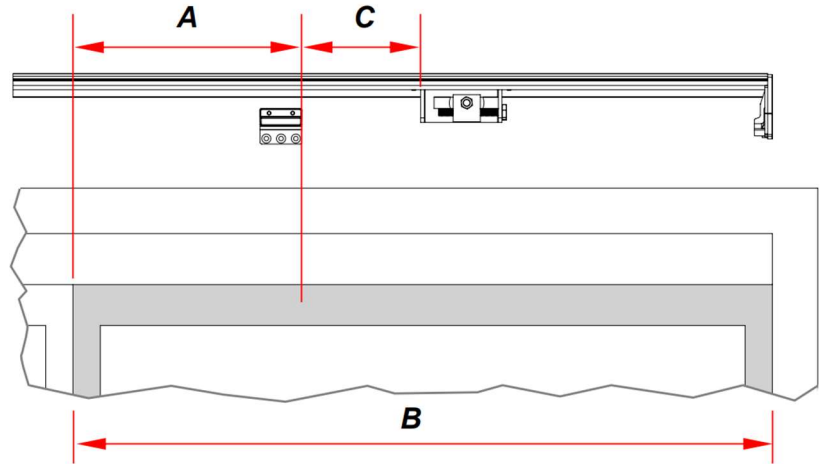
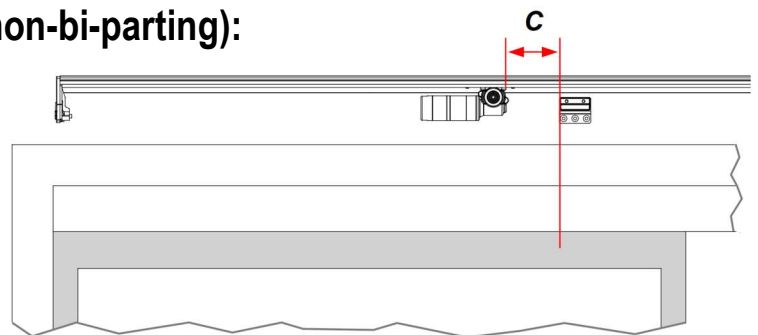

Figure 19: Left-opening sliding door: belt tensioner and bottom bracket. The right side is shown with sliding door closed.
Figure 22: Left-opening sliding door with motor and bottom bracket. The left side is shown with the sliding door
2. Slide the belt tensioner along the base until it is in front of **closed sliding door** as shown in Figure 19, where:
4. Mark the position of the bottom bracket on both the base and the door as in Figure 19.
2. Slide the motor along the base until it is 1.97" (50 mm) from the mark you made on the **door** for the bottom bracket position (Figure 19 and Figure 22, where **C** = 1.97" or 50 mm).